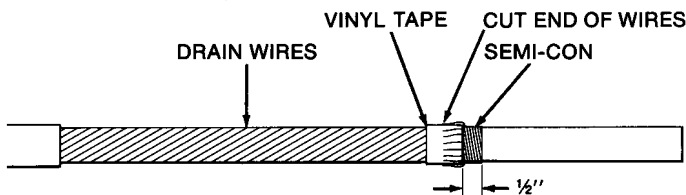

Figure 2
4. Fold loose shield wires back and cut off at center of vinyl tape (Figure 2).
5. Remove cable semi-con, leaving 1/2" exposed beyond folded back wires. (Figure 2)